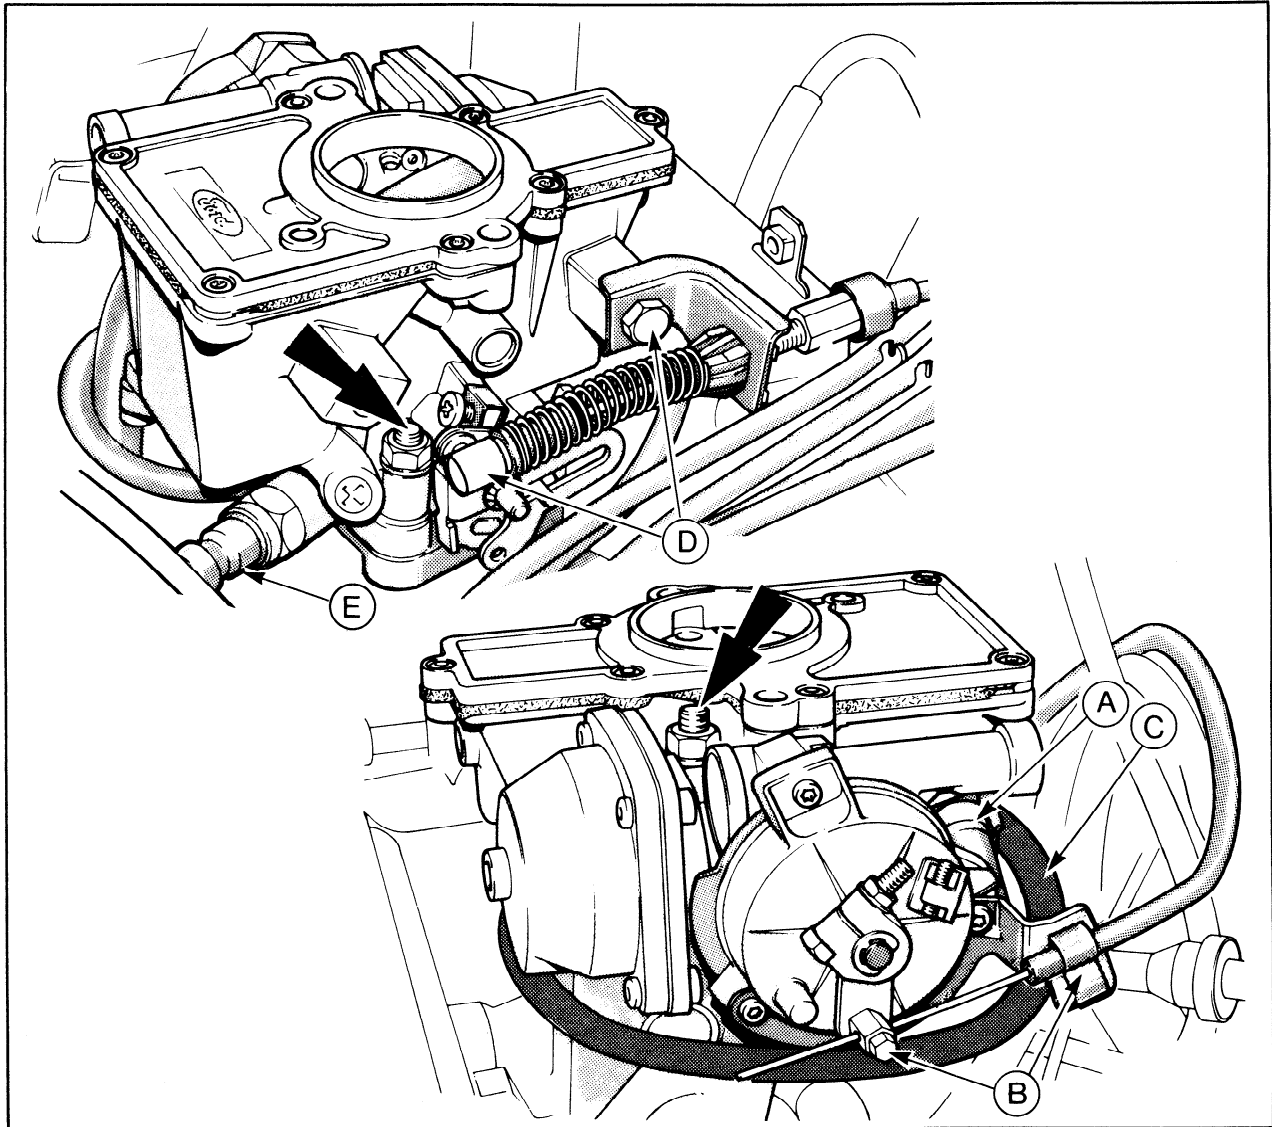

FIG. 24 Items to be Disconnected for Manual Choke Carburetor Removal (Carburetor Retaining Nuts Arrowed)
2. Disconnect the fuel inlet line, distributor vacuum hose and anti-dieseling solenoid wire (Figure 24).